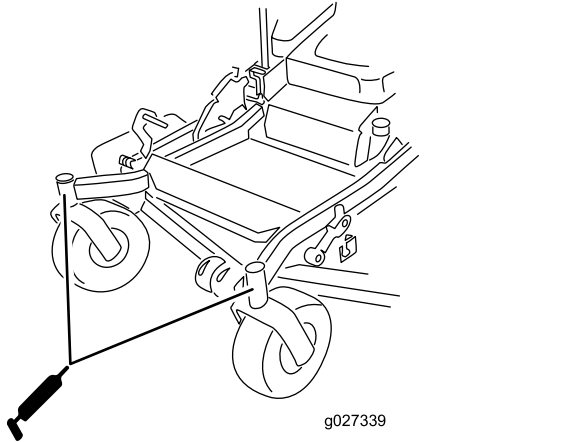

Figure 46
10. Install the hex plug and dust cap (Figure 46).
11. Grease the caster-wheel bearings (Figure 46).